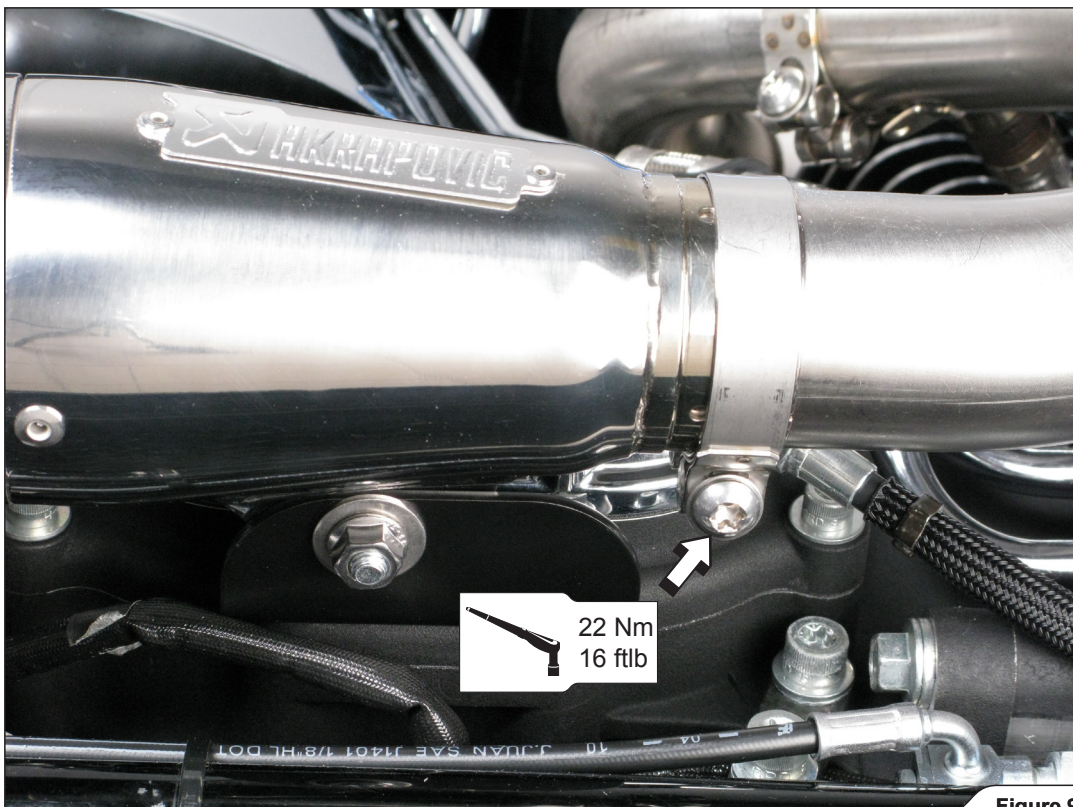

Figure 9
- Tighten the clamp at the collector - muffler joint (**Figure 9**).